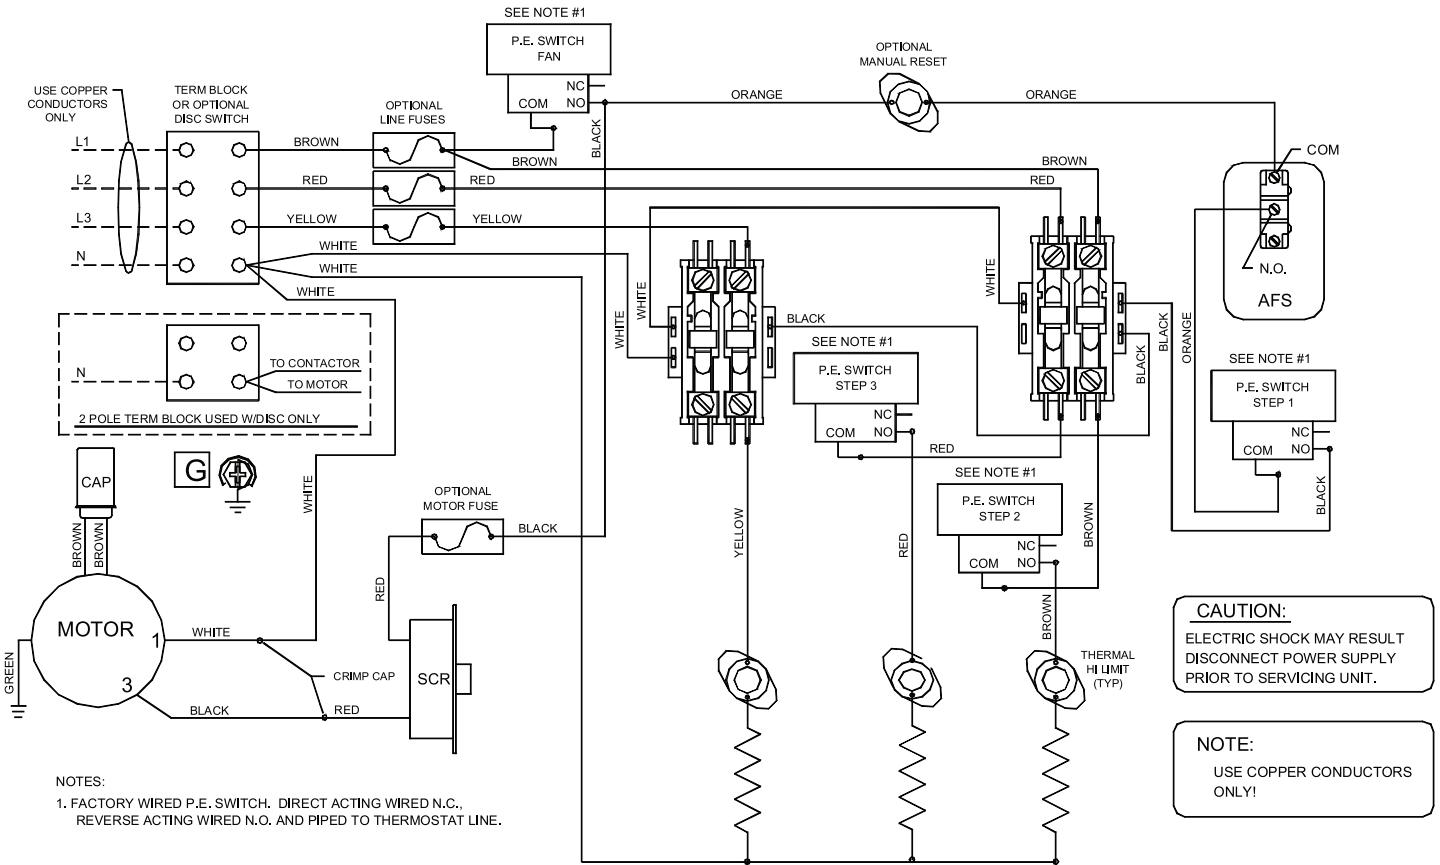

Figure 4
- Figure 4 Typical pneumatic parallel fan powered terminal with contactors.